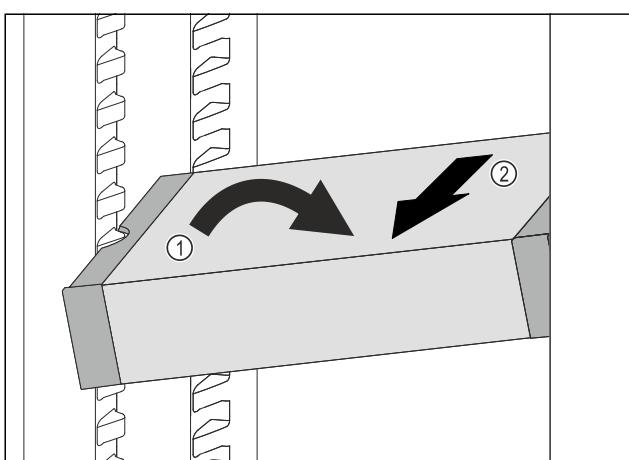

Fig. 105
► Set VarioSafe in refrigerator compartment at an angle. Fig. 105 (1)
► Take VarioSafe out to the front. Fig. 105 (2)